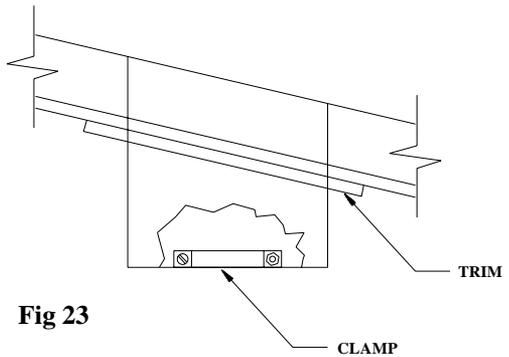

Fig 23
8. Place the Pipe Clamp, (which comes as a component of the Support Box) around the top of the hole in the bottom of the Support Box. (Figure 23).